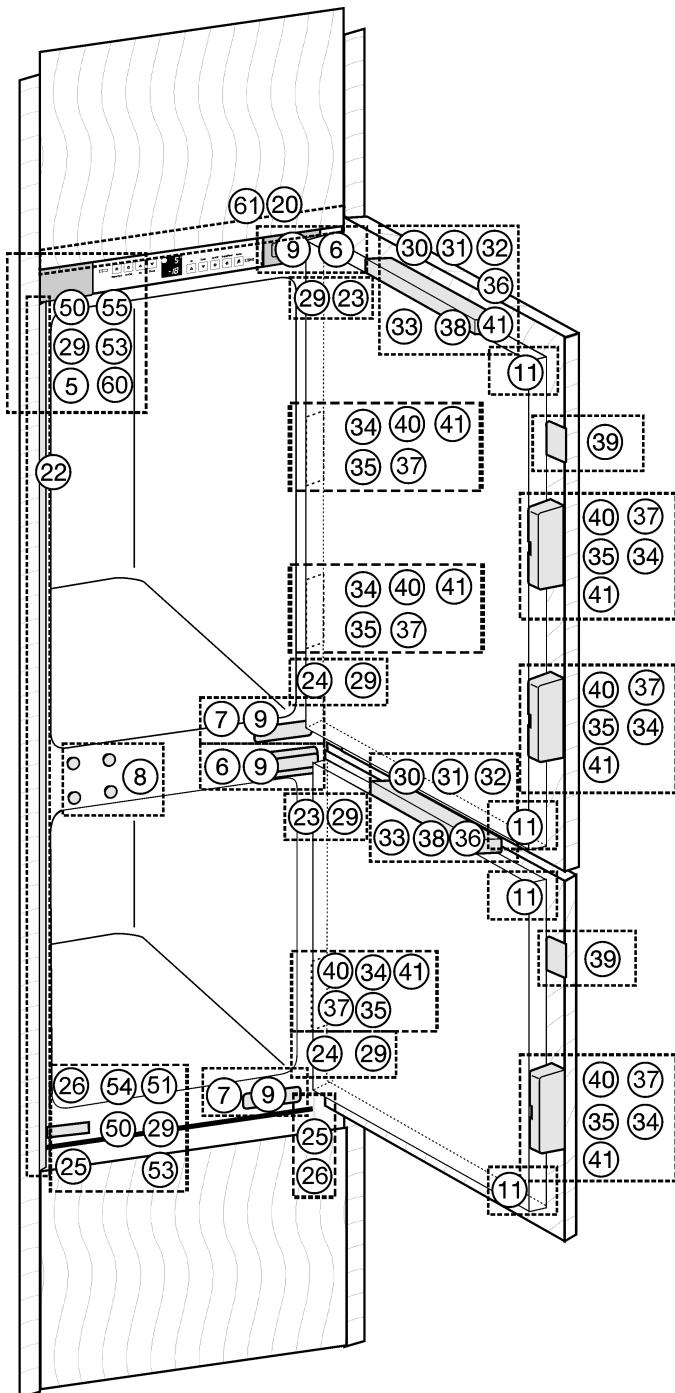
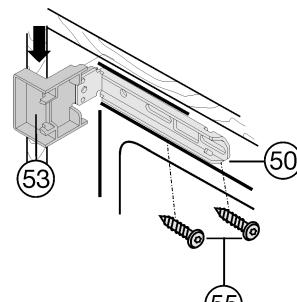
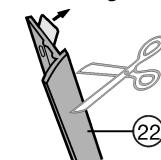

Fig. 9
Fig. 14
Fig. 15
- ▶ Clip a spacer Fig. 13 (23) onto the upper hinges and a spacer Fig. 9 (24) onto the lower hinges.
- ▶ Attach the top and bottom covers Fig. 14 (53) to the mounting brackets Fig. 14 (50).
- ▶ Fasten the mounting brackets Fig. 14 (50) at the top with screws Fig. 14 (55) and at the bottom with screws Fig. 9 (51) such that the bracket can still be moved slightly to the left and to the right.
- ▶ Remove the protective film from the trim Fig. 15 (22). Attach the trim Fig. 15 (22) on the handle side and flush with the front to the projecting edge of the cover Fig. 14 (53) and glue to the sidewall of the appliance.
- ▶ To shorten the trim Fig. 15 (22) at the bottom, if necessary: Position the cover Fig. 9 (54) on the bottom mounting bracket Fig. 14 (50) and shorten the trim Fig. 15 (22) so that it is flush with the upper edge of the cover.
- ▶ Remove the cover Fig. 9 (54) again.
- Slide the appliance in until it comes into contact with the covers Fig. 14 (53) on the side wall of the unit. Fig. 14
- Adjust the adjustable feet Fig. 9 (25) with the supplied open-ended wrench Fig. 9 (26) to align the appliance vertically.